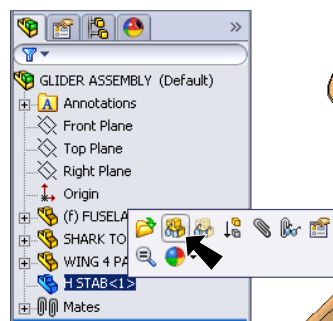

Fig. 68
Step 6. Click **H Stab** in Feature Manager and click **Show Components**  on the Content menu, **Fig. 68**.